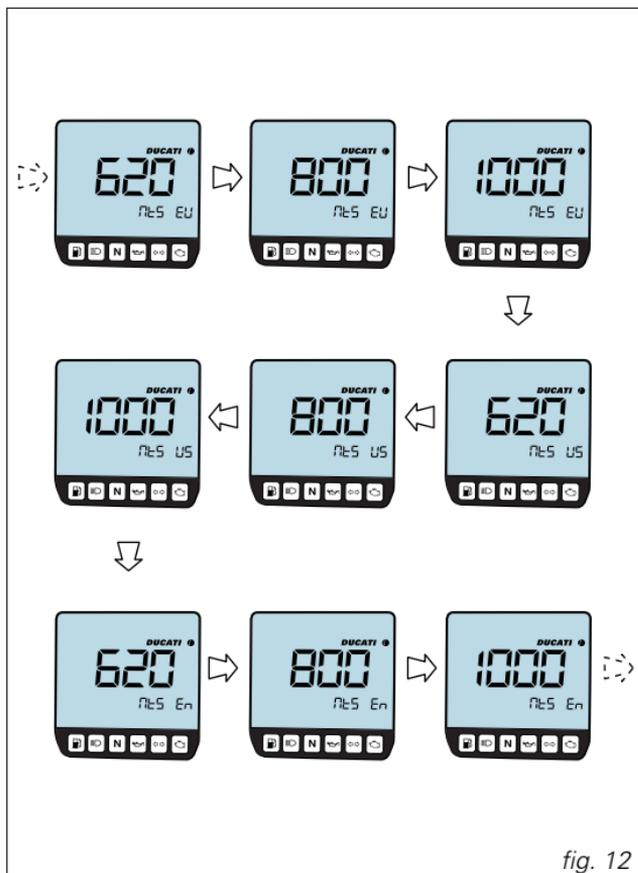

fig. 12
**Special selection function: vehicle model and unit of measurement** (fig. 12)